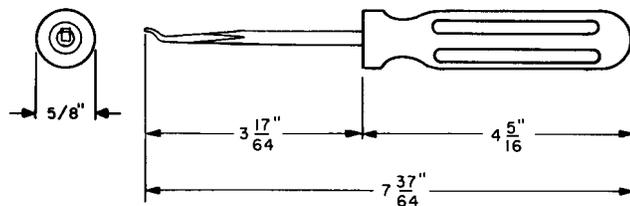

Fig. 2—117 Adjuster Tool
2.02 117: The 117 tool (Fig. 2) is a spring adjuster used to adjust the tip and ring springs on the 49-, 92-, and 292- type jacks.